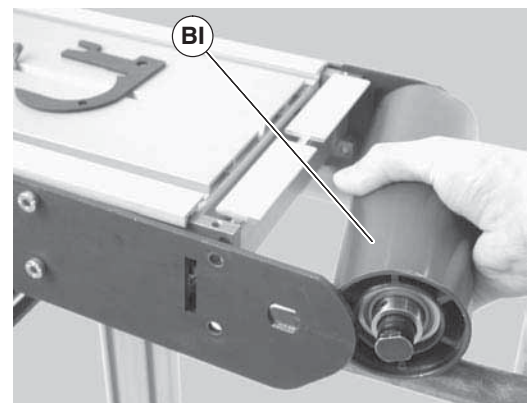

Figure 46
4. Slide the idler pulley assembly (Figure 46, item BI) out of the headplate on the opposite side.